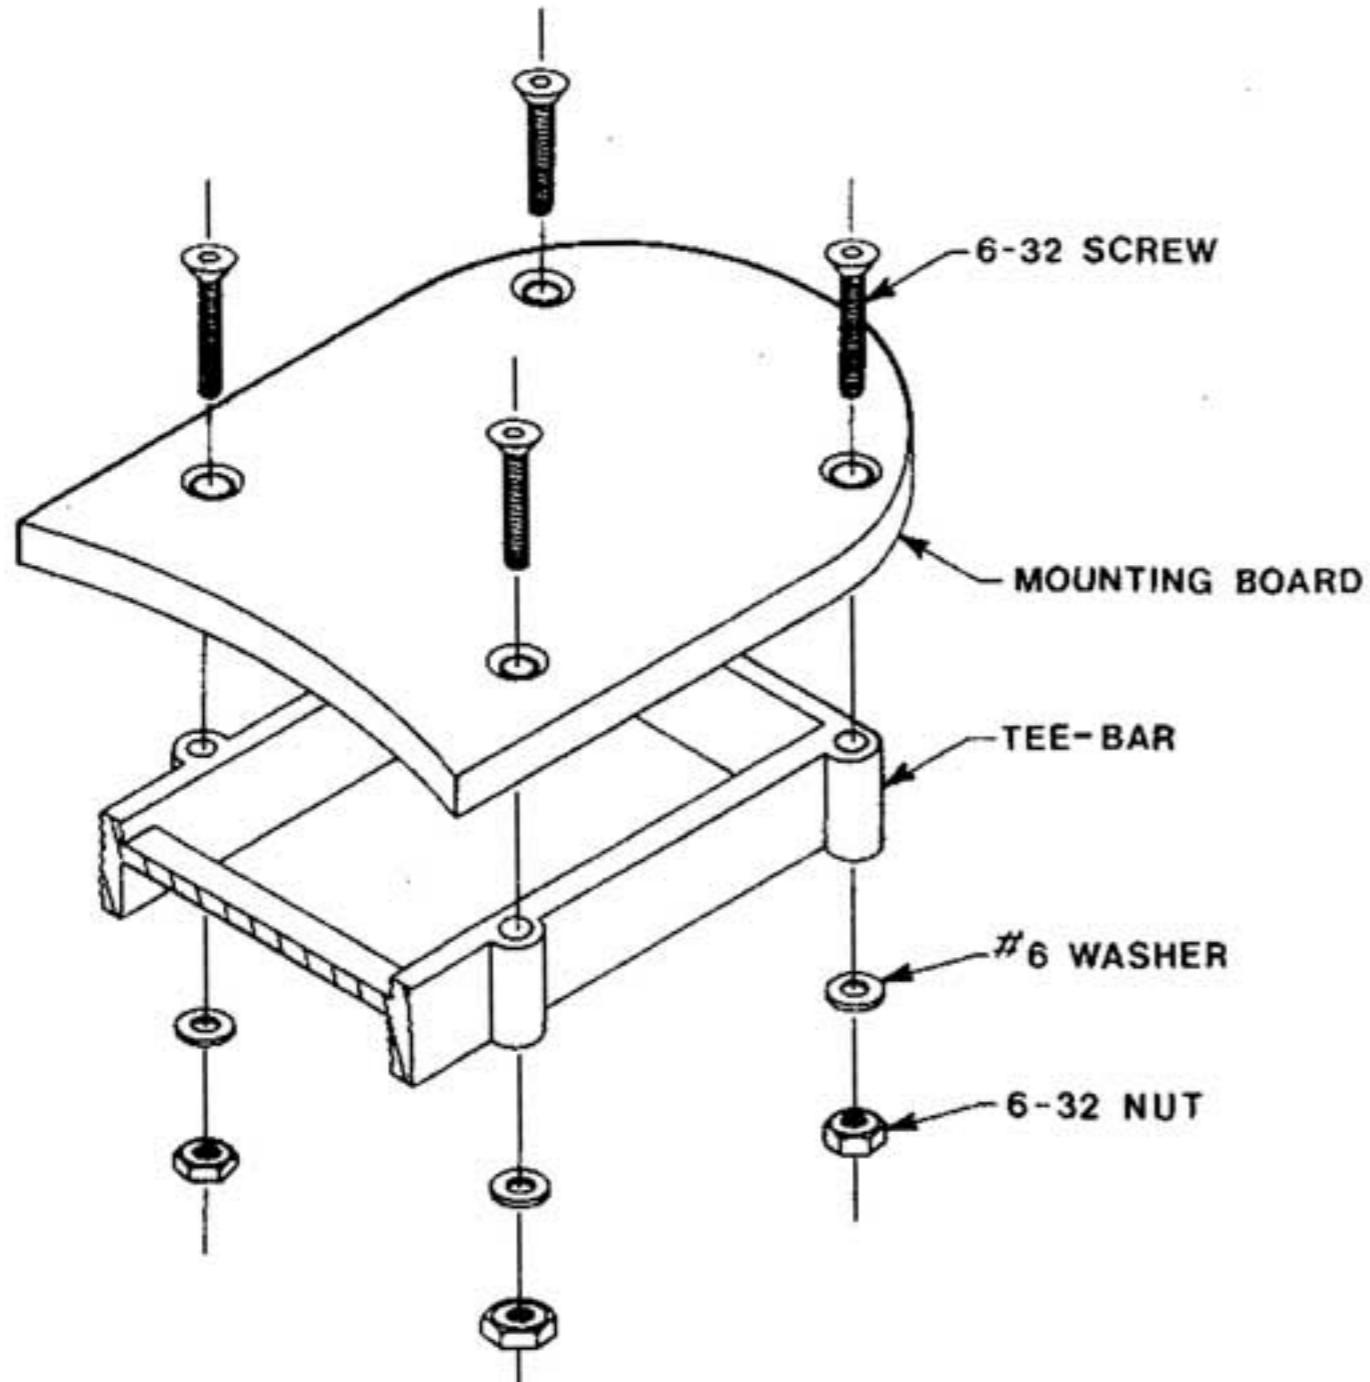
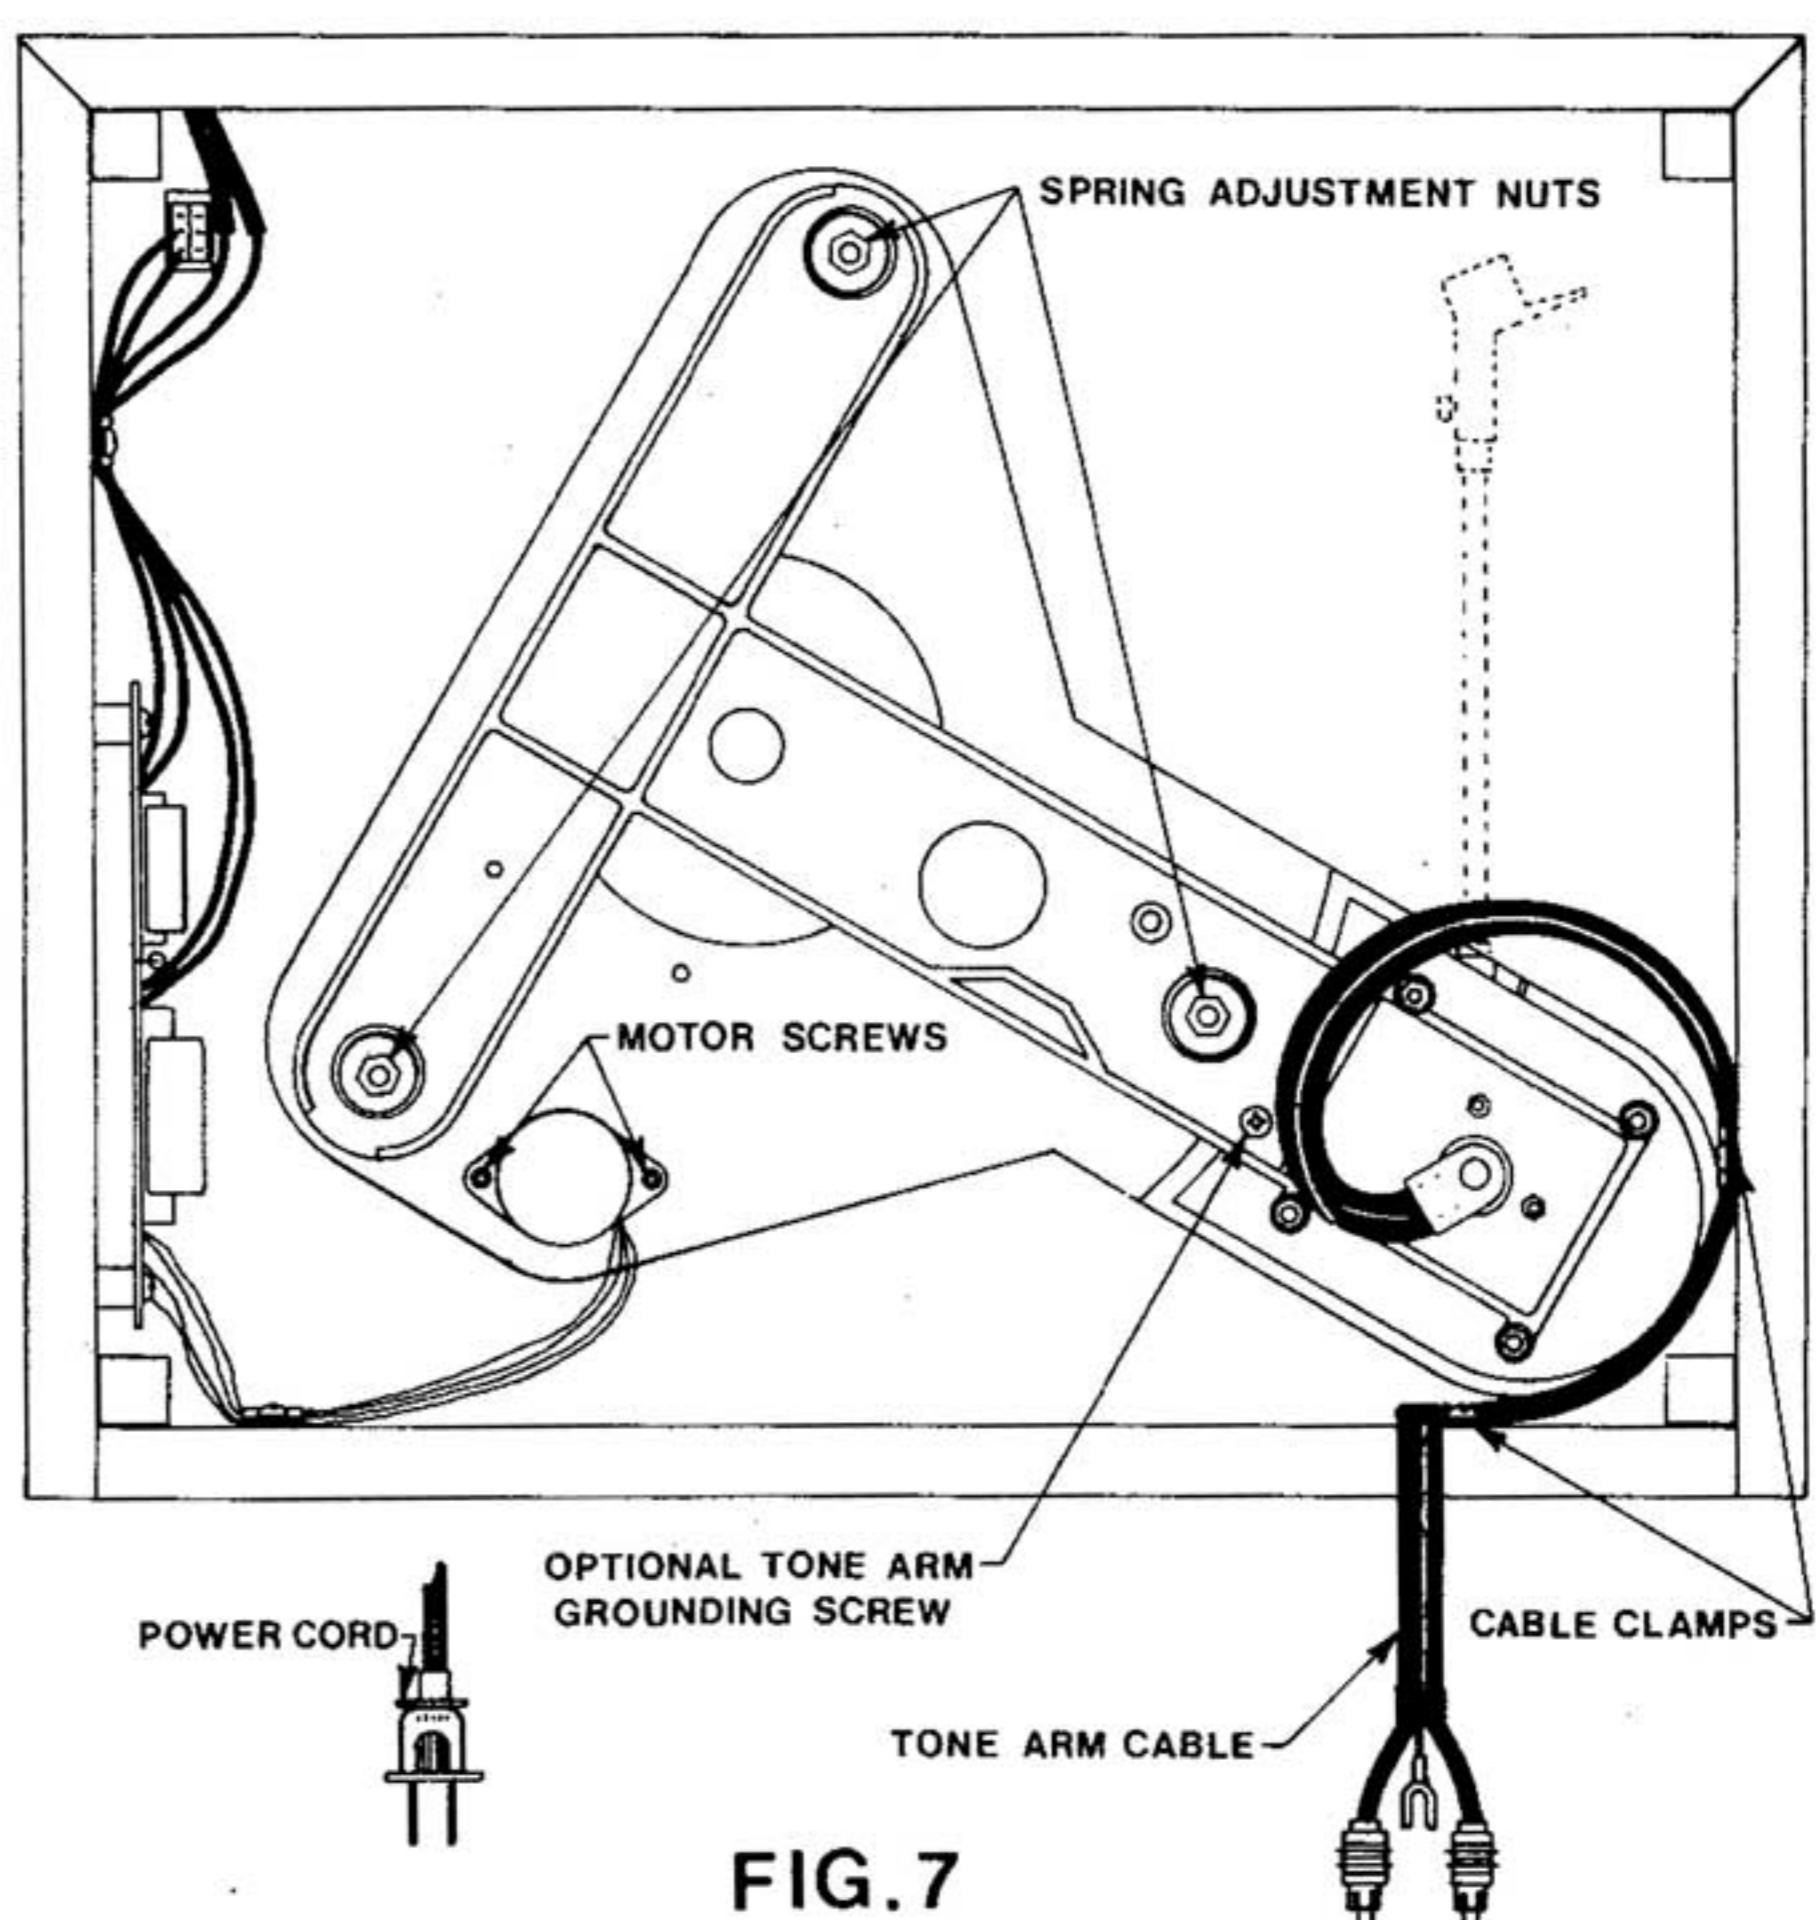
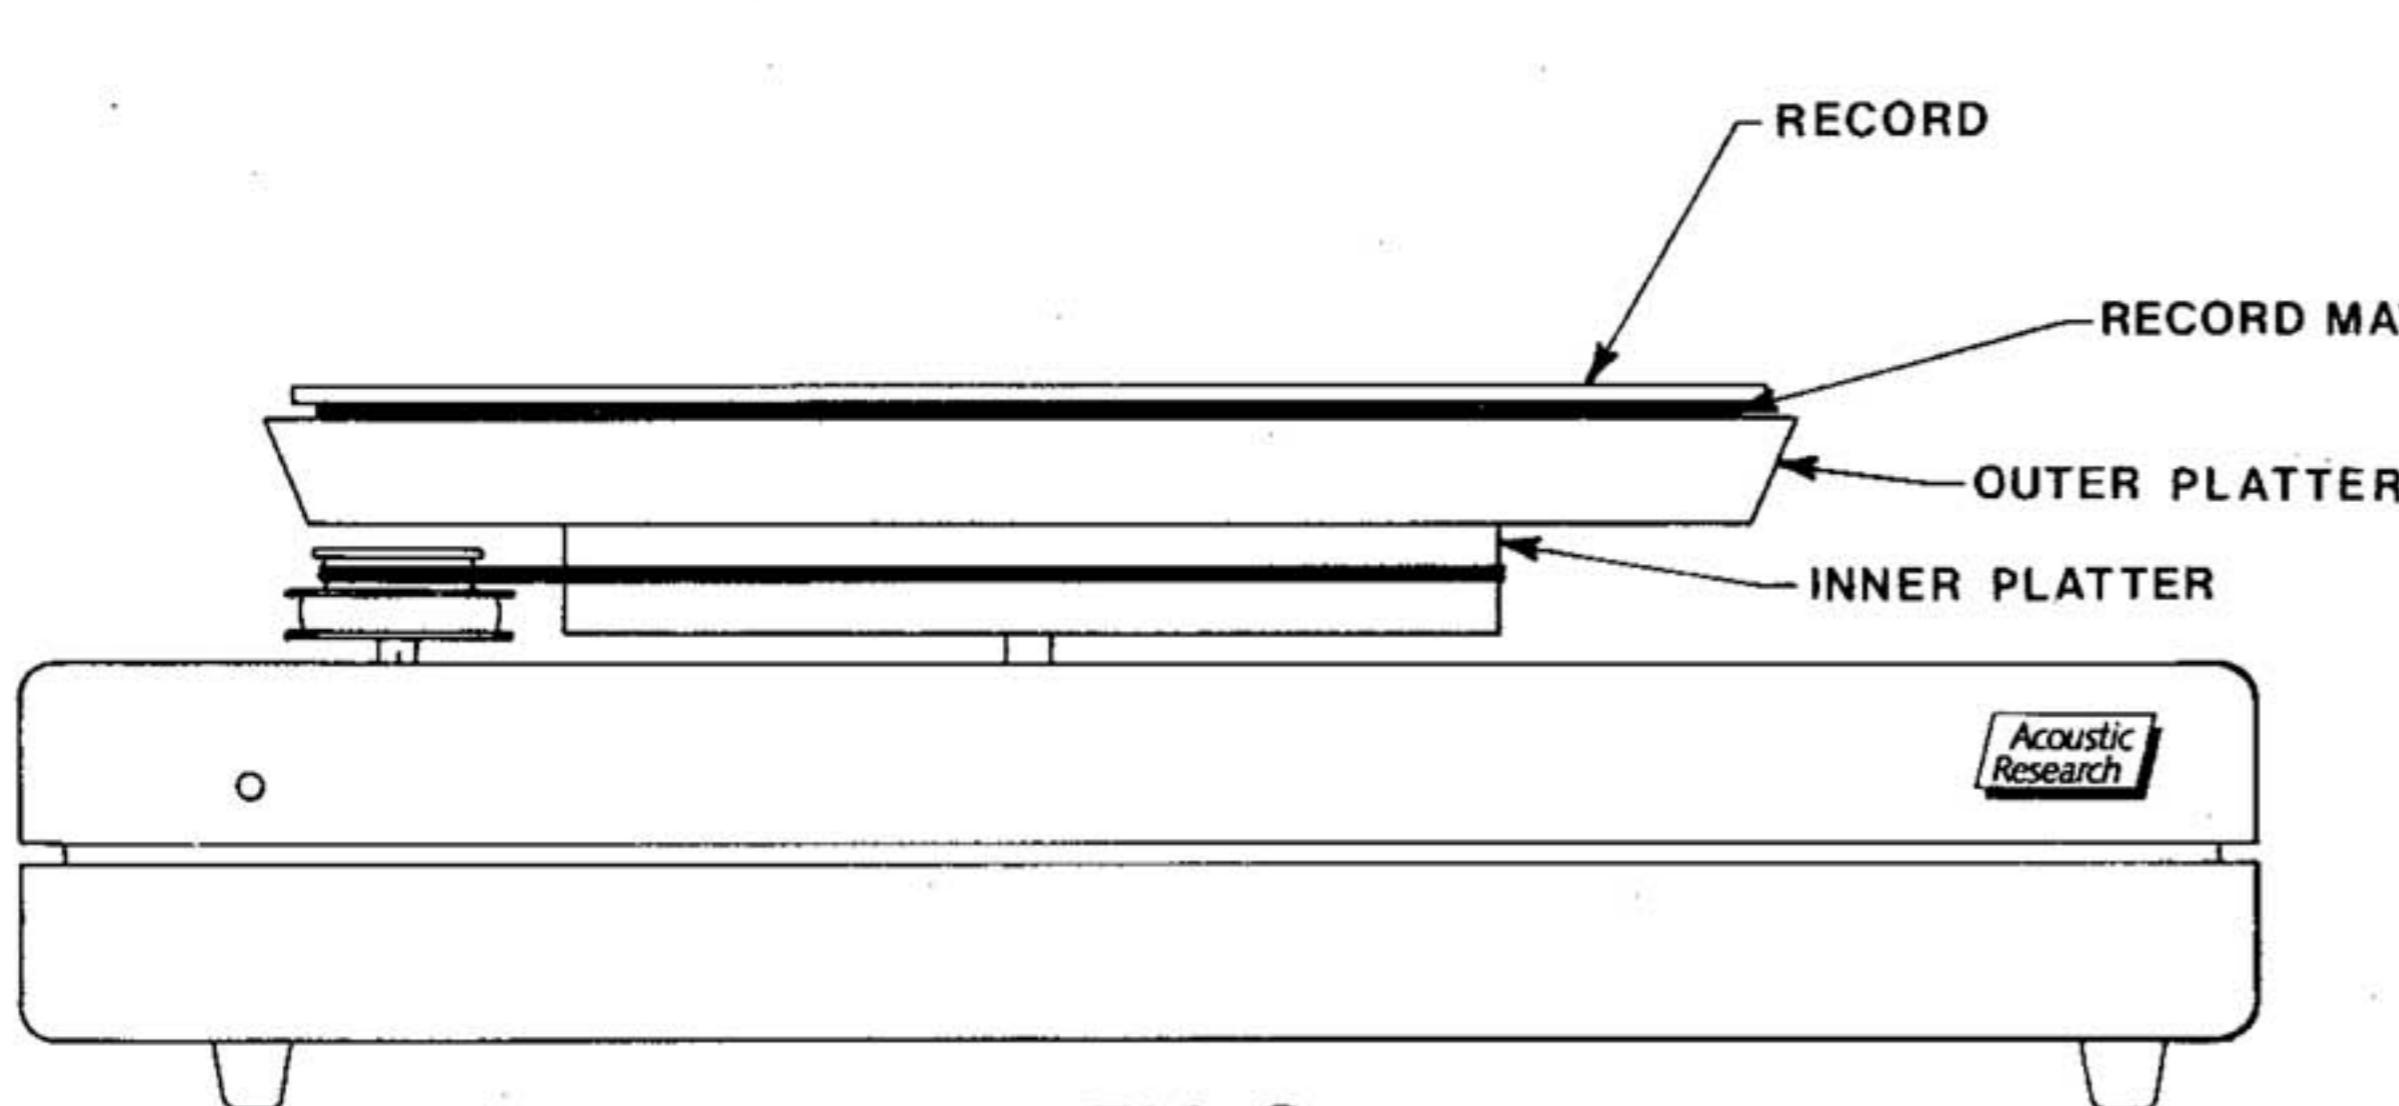
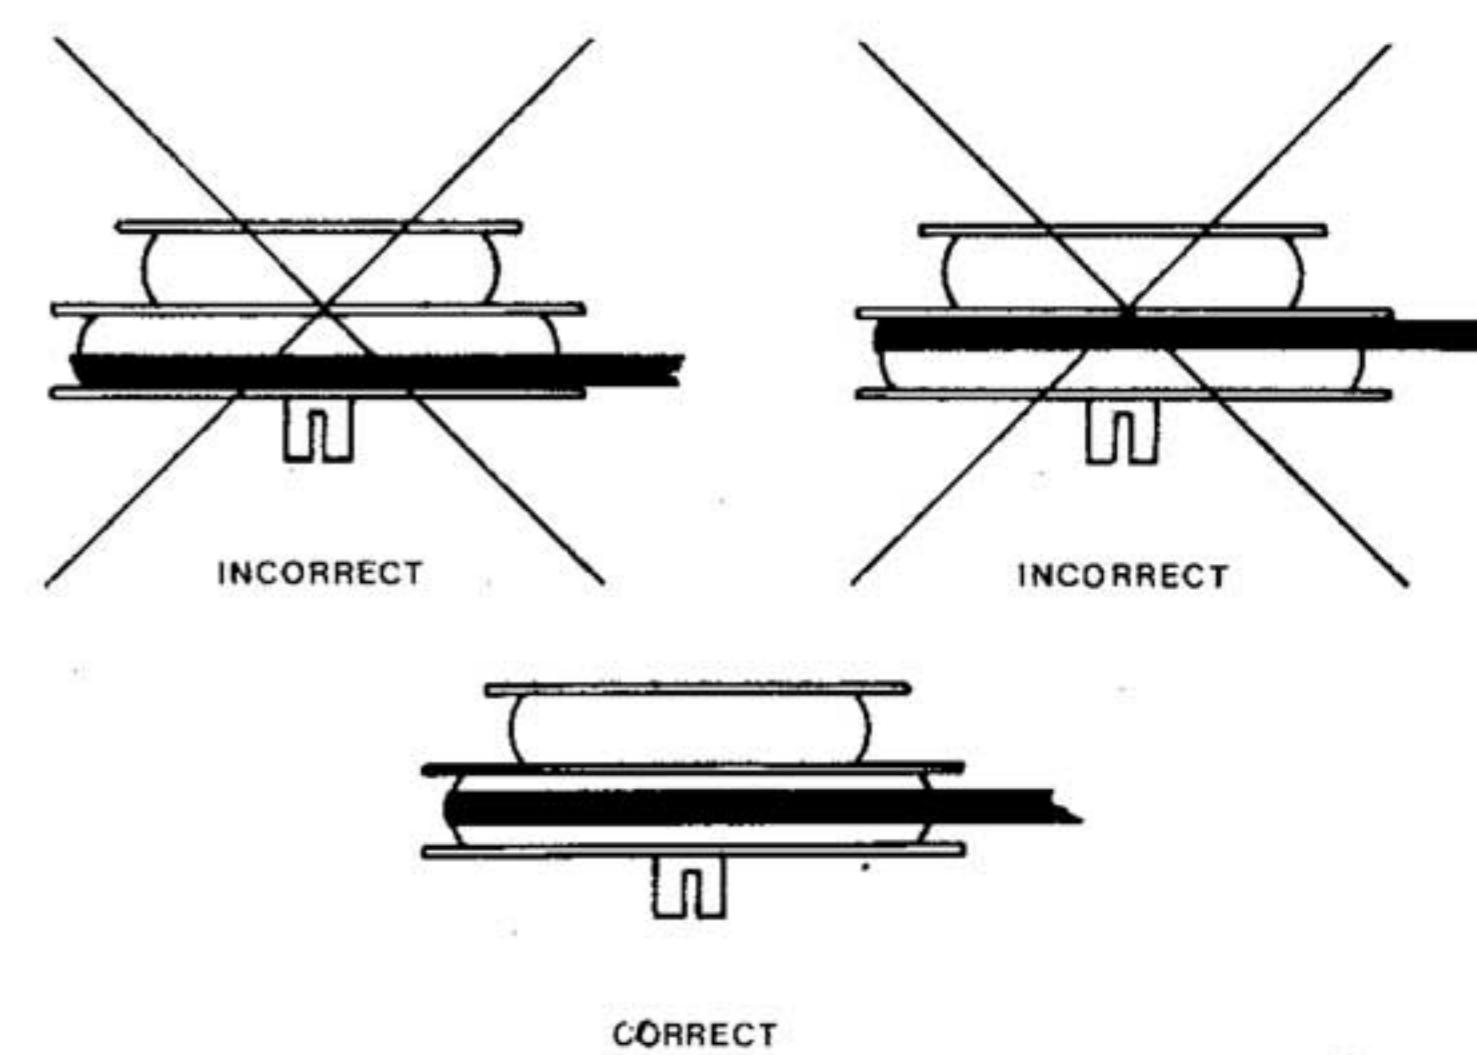

FIG.6
FIG.7
FIG. 8
FIG. 9
- (1) Make sure that the line cord is NOT CONNECTED to the wall socket and then remove the bottom cover to the base. The cover is held on by the four feet which can be removed by undoing the four phillips-head screws in the feet. Hold the turntable upright on one end to do this and at the same time hold the inner platter in position as this should not be allowed to slide out of the bearing.
- (2) Support the turntable base 6 to 12 inches above a table or similar surface such that access is given to the inside. This can be achieved with books under each end, ensuring that the base is firmly seated and that the upper surface of the base is perfectly level. Use a spirit level (not supplied) to ensure a level surface.
- (3) Using the instructions and/or template(s) supplied with your tonearm mark all the holes that will be needed on the tonearm mounting board and then remove the board. The board is held in place by four allen screws which pass through the tee bar and are held with four nuts and washers (fig 6). The  $\frac{5}{64}$  inch allen wrench supplied in the accessories fits the screws.
- (4) Drill and/or cut the board as required.
- (5) The tonearm may now be mounted on the board and the board replaced, ensuring that the four allen screws are tightened securely. Set up the tonearm following the manufacturer's instructions.
- (6) The tonearm cables can now be installed. The cable(s) are held by the two clamps and screws provided in the accessories which should be screwed into the interior side or underside of the base. The cable should be positioned with as much free cable as possible between the tonearm base and the clamps to allow free movement of the suspended tee-bar. This free cable should not touch any part of the tee-bar, base, or bottom cover. One way of achieving this is shown in fig 7, although different tonearms and cables will require different layouts to achieve the free movement and a degree of experimentation is necessary. It may be found that your tonearm has a very deep base that would make the cable touch the bottom cover. This can be overcome by cutting a clearance hole in that cover to allow the cable loop to fall below the cover level (the feet give an extra clearance of about  $\frac{1}{2}$  inch if this is done).
- (7) Next the turntable itself should be made operational as covered in section (B).
- (8) The suspension should now be adjusted. Ensure that the drive belt, outer platter, turntable mat and a record are in place for this step. The (tee-bar — platter — tonearm) subsystem is levelled using the three nuts under the springs on the underside of the deck (fig 7). These should be turned until the outer platter is sitting with its outer edge approximately  $\frac{1}{4}$  inch above the top surface of the base. The precise dimension is not important but it is critical that it be absolutely constant all around the perimeter of the platter as this ensures that the playing surface is level.
- (9) Check the horizontal positioning of the tee-bar assembly. This should be positioned such that the tonearm board has an even gap around it and such that the pulley itself is not positioned too close to either the inner platter or to the underside of the outer platter. THIS PULLEY CLEARANCE IS EXTREMELY IMPORTANT IF YOUR TURNTABLE IS BEING USED WITH A 50Hz SUPPLY AS THE 50Hz PULLEY IS RELATIVELY LARGE. If the positioning is not correct, it can be adjusted by rotating one or more springs whilst keeping the nuts from turning with them.
- (10) Remove the record, mat, and outer platter and replace the bottom cover and feet.
- (11) Place the outer platter UPSIDE-DOWN on the inner platter and put the mat and record on top of it. The drive belt and pulley is now visible (fig 8). Connect the line cord to the outlet and switch on the turntable. The drive belt should run on the crown of the pulley and not rub against either flange (fig 9). If this is not so, unplug the line cord, remove the bottom cover again and shim the motor to correct matters. The motor may be loosened by the two screws shown in fig 7 and then shimmed with piece(s) of paper before retightening the screws. If the belt rubbed the bottom of the pulley, then the side away from the platter will need shimming and vice-versa. IN ORDER TO AVOID THE POSSIBILITY OF ELECTRIC SHOCK, REMEMBER TO ALWAYS MAKE SUCH ADJUSTMENTS WITH THE POWER CORD DISCONNECTED AND DO NOT RE-CONNECT IT UNTIL THE BOTTOM COVER HAS BEEN REPLACED.